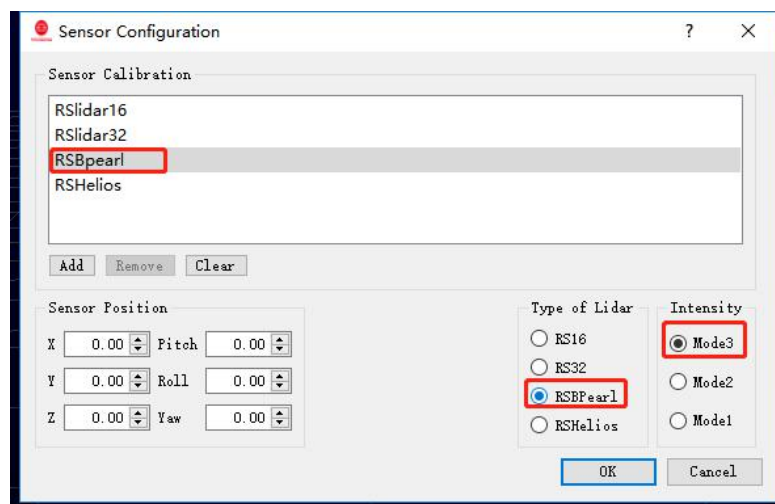

Figure C-2 Select RS-Bpearl Parameter Configuration File
4. The Sensor Configuration dialog will appear. In "Type of Lidar", chose RSBpearl. In "Intensity", chose Mode3. Then click **OK**, as shown in Figure C-2: